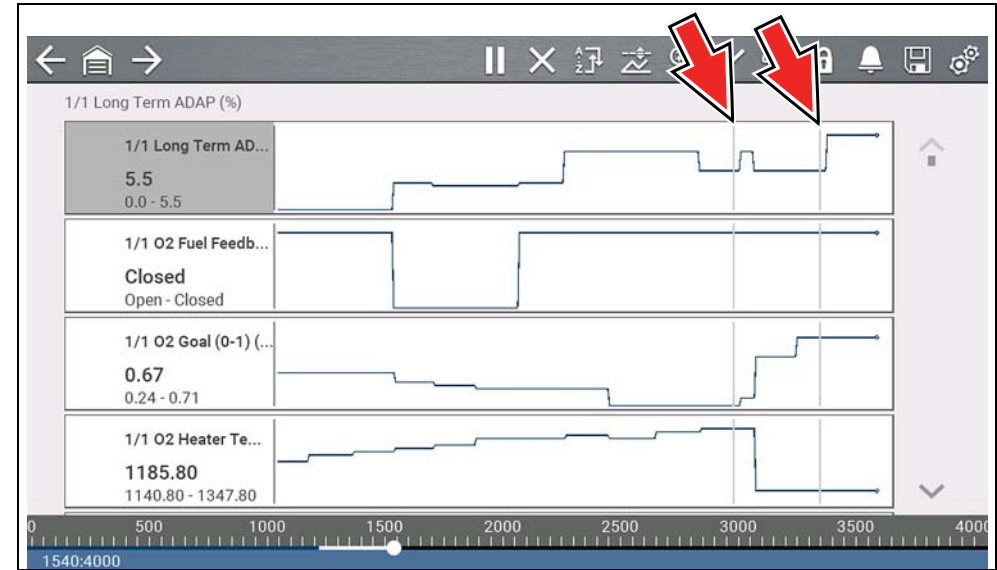

Figure 4-21
- The screen changes back to display data (Figure 4-21).
- A vertical gray cursor is displayed on all PIDs, indicating where the data was paused (Figure 4-21). If Pause occurred more than once, gray cursors will be used for each instance.